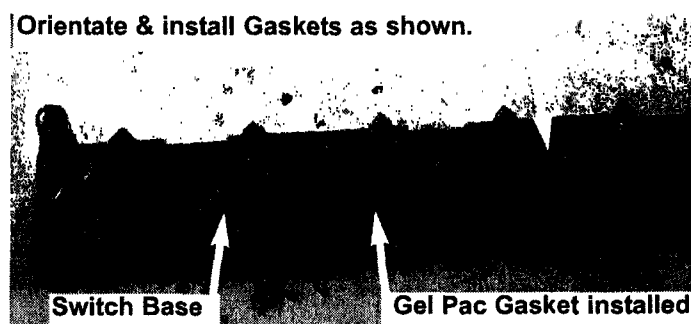

Figure 3
7. Flip the Gel Pac Gasket over; orientate to fit into the Switch Bank, and insert. **Fig. 3** After Gasket is in place, remove the clear film from the Gel Pac Gasket.